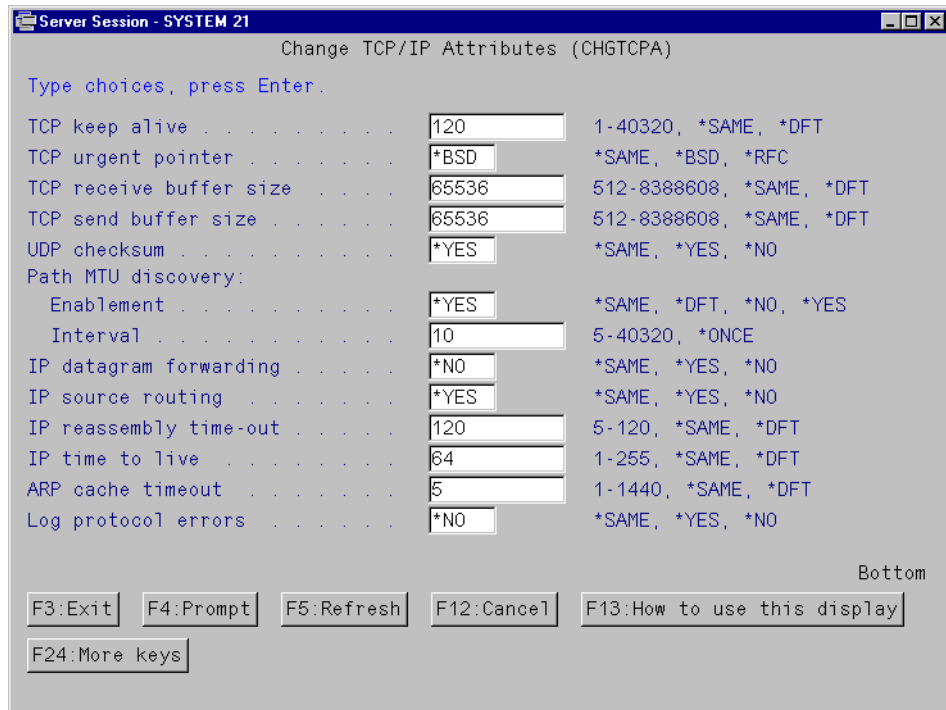

Figure 209. Change TCP/IP Attributes display
- **Buffer Size:** Use the Change TIP/IP Attributes (CHGTCPA) command to set the TCP/IP buffer size to 64K (Figure 209).